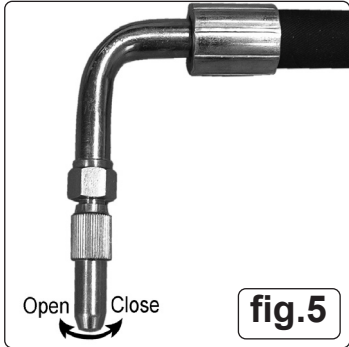

fig.5
- 5.4.2. With the nozzle pointing into the receiving container, open the nozzle valve as shown in fig.5.